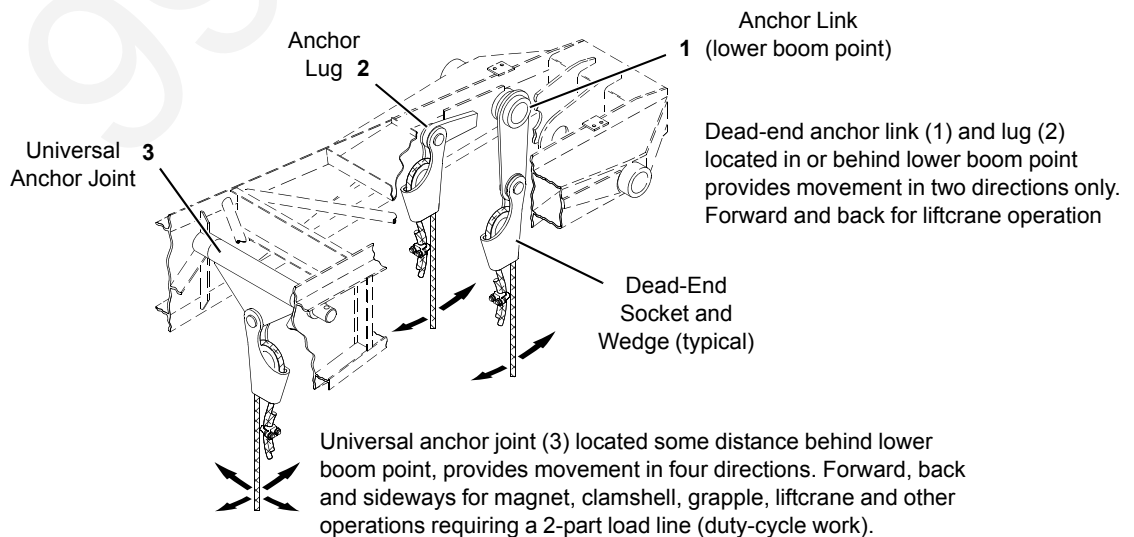

FIGURE 4-61
The dead-end socket and wedge can be anchored to any of the following locations in the boom and jib point, depending on the type of operation (see Figure 4-61):
**NOTE:** Movement of the dead-end socket on the link or lug (1 and 2 above) is in two directions only – forward and back (see Figure 4-61). Movement of the dead-end socket on the universal anchor joint (3 above) is in four directions – forward, back and sideways (see Figure 4-61).